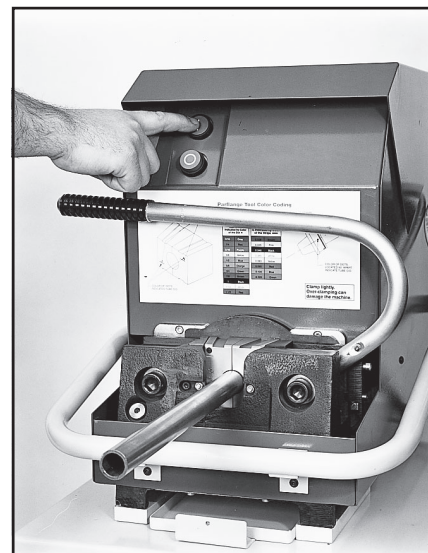

Fig. R17 – Parflange 1025 machine
5. Flange the tube as shown in Figure R17.